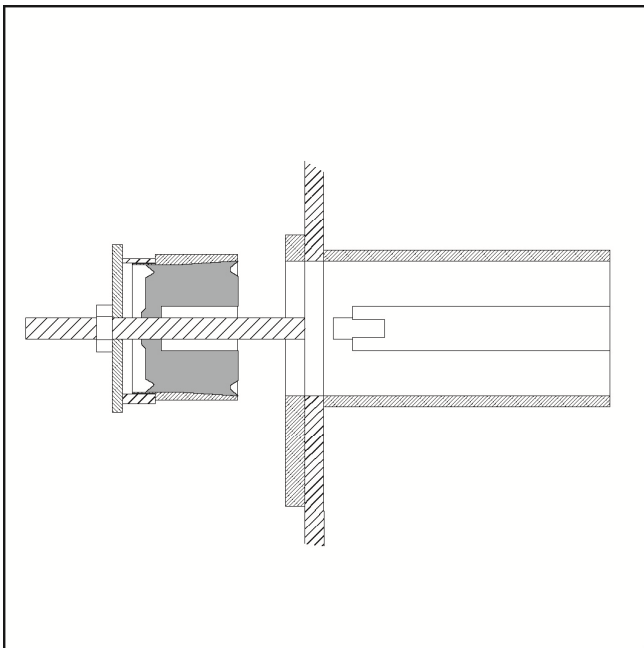

FIG.52
- Remove the piston with the guide ring (FIG. 52).